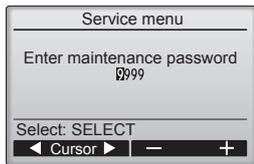

Fig. 7-2
- ① Select "Service" from the Main menu, and press the [SELECT/HOLD] button.
- ② When the Service menu is selected, a window will appear asking for the password. (Fig. 7-2)